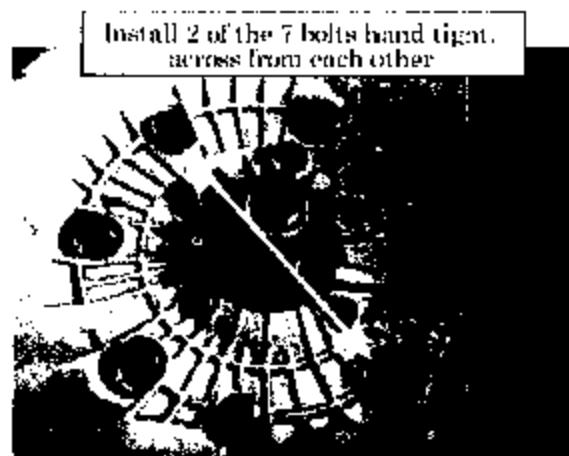

Figure 25
58. Install two of the seven housing bolts, hand tight (*see figure 25*).
61. NOTE: This is an increased torque specification (*see figure 25*).